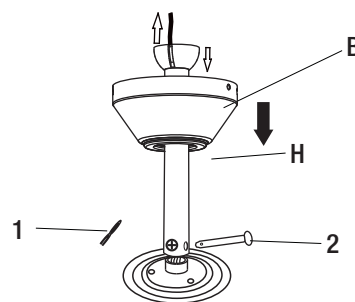

Figure 5
- Remove the split pin (1) and pivot pin (2) from the downrod assembly (H) and set them aside for later restoration.
- Place the downrod assembly (H) through the ceiling canopy (B). Insert the motor wires through the downrod assembly (Figure 5).